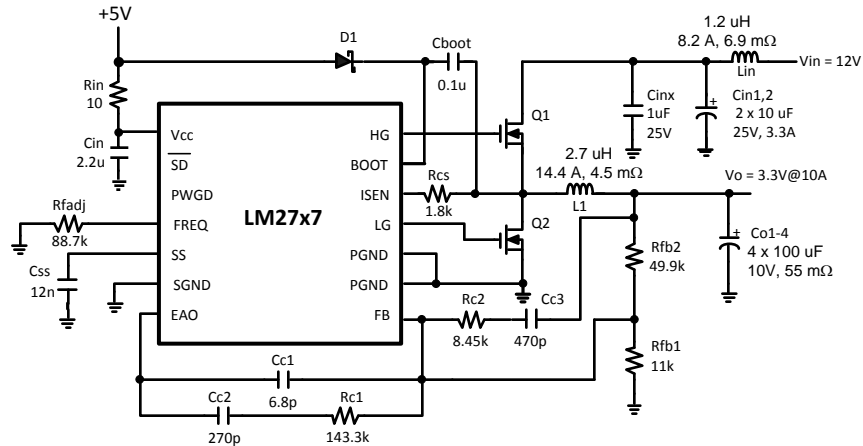

Figure 25. 5V-16V to 3.3V, 10A, 300kHz
**Table 2. Bill of Materials for Circuit of Figure 25